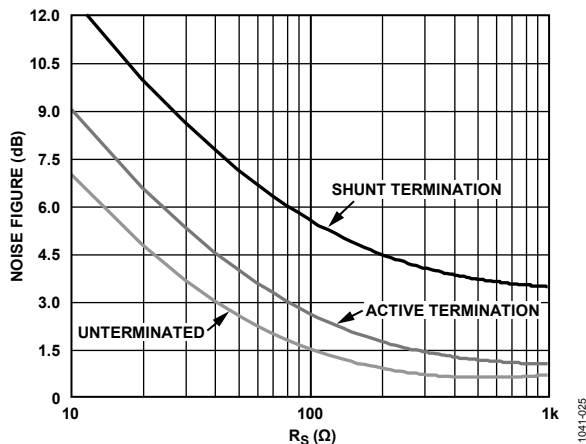
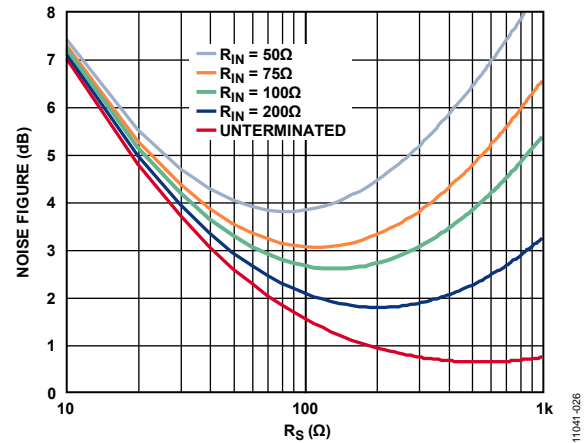

Figure 35. Noise Figure vs. R_S for Shunt Termination, Active Termination Matched, and Untermated Inputs, $V_{GAIN} = 1.6$ V
Figure 36. Noise Figure vs. R_S for Various Fixed Values of R_{IN} , Active Termination Matched Inputs, $V_{GAIN} = 1.6$ V
The short-circuit noise voltage (input referred noise) is an important limit on system performance. The short-circuit noise voltage for the LNA is 0.78 nV/ $\sqrt{\text{Hz}}$ at a gain of 21.6 dB, including the VGA noise at a VGA postamplifier gain of 27 dB. These measurements, taken without a feedback resistor, provide the basis for calculating the input noise and noise figure (NF) performance. Figure 35 and Figure 36 are simulations of noise figure vs. R_S results with different input configurations and an input referred noise voltage of 2.5 nV/ $\sqrt{\text{Hz}}$ for the VGA. Unterminated ($R_{FB} = \infty$) operation exhibits the lowest equivalent input noise and noise figure. Figure 36 shows the noise figure vs. source resistance rising at low R_S —where the LNA voltage noise is large compared to the source noise—and at high R_S due to the noise contribution from R_{FB} . The lowest NF is achieved when R_S matches R_{IN} .
Figure 35 shows the relative noise figure performance. With an LNA gain of 21.6 dB, the input impedance is swept with R_S to preserve the match at each point. The noise figures for a source impedance of 50 Ω are 7 dB, 4 dB, and 2.5 dB for the shunt termination, active termination, and unterminated configurations, respectively. The noise figures for 200 Ω are 4.5 dB, 1.7 dB, and 1 dB, respectively.
Figure 36 shows the noise figure as it relates to R_S for various values of R_{IN} , which is helpful for design purposes.